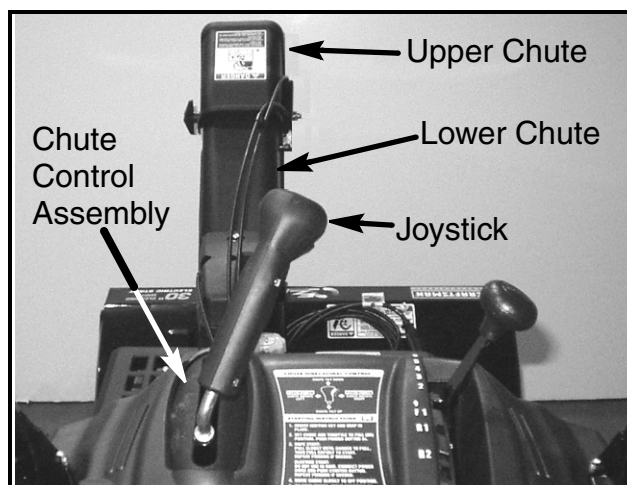

FIGURE 3
3. At the chute control assembly joystick, depress the red trigger and position the chute as shown in Figure 3.
NOTE: The joystick will be angled slightly to the right, about the 1 o'clock position. See Figures 3 and 14.